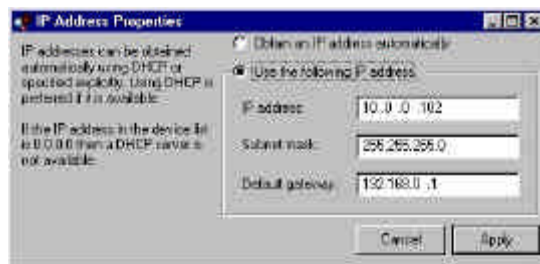

Figure 4.8 IP Address Properties dialog box
- Click the Configure toolbar button. The IP Address Properties dialog box opens (Figure 4.8).